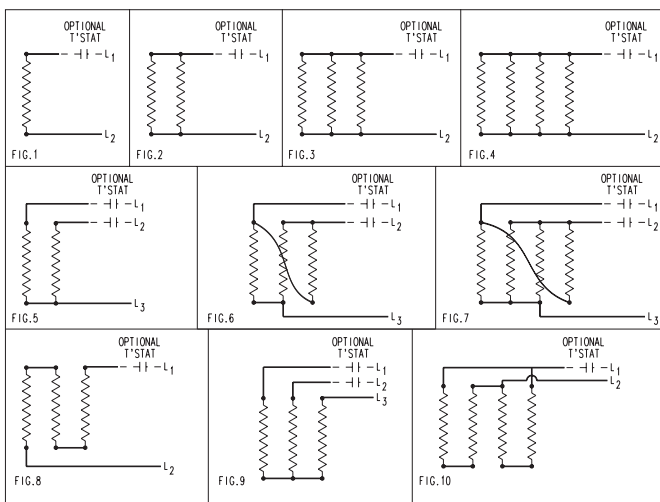

Figure 9 – Wiring Diagram
- Connect the power leads to terminals marked L1 and L2 for single phase and L1, L2 & L3 for three phase heaters as shown in Figure 9, page 7.
Part No.	Wiring Diagram (Figure 9)